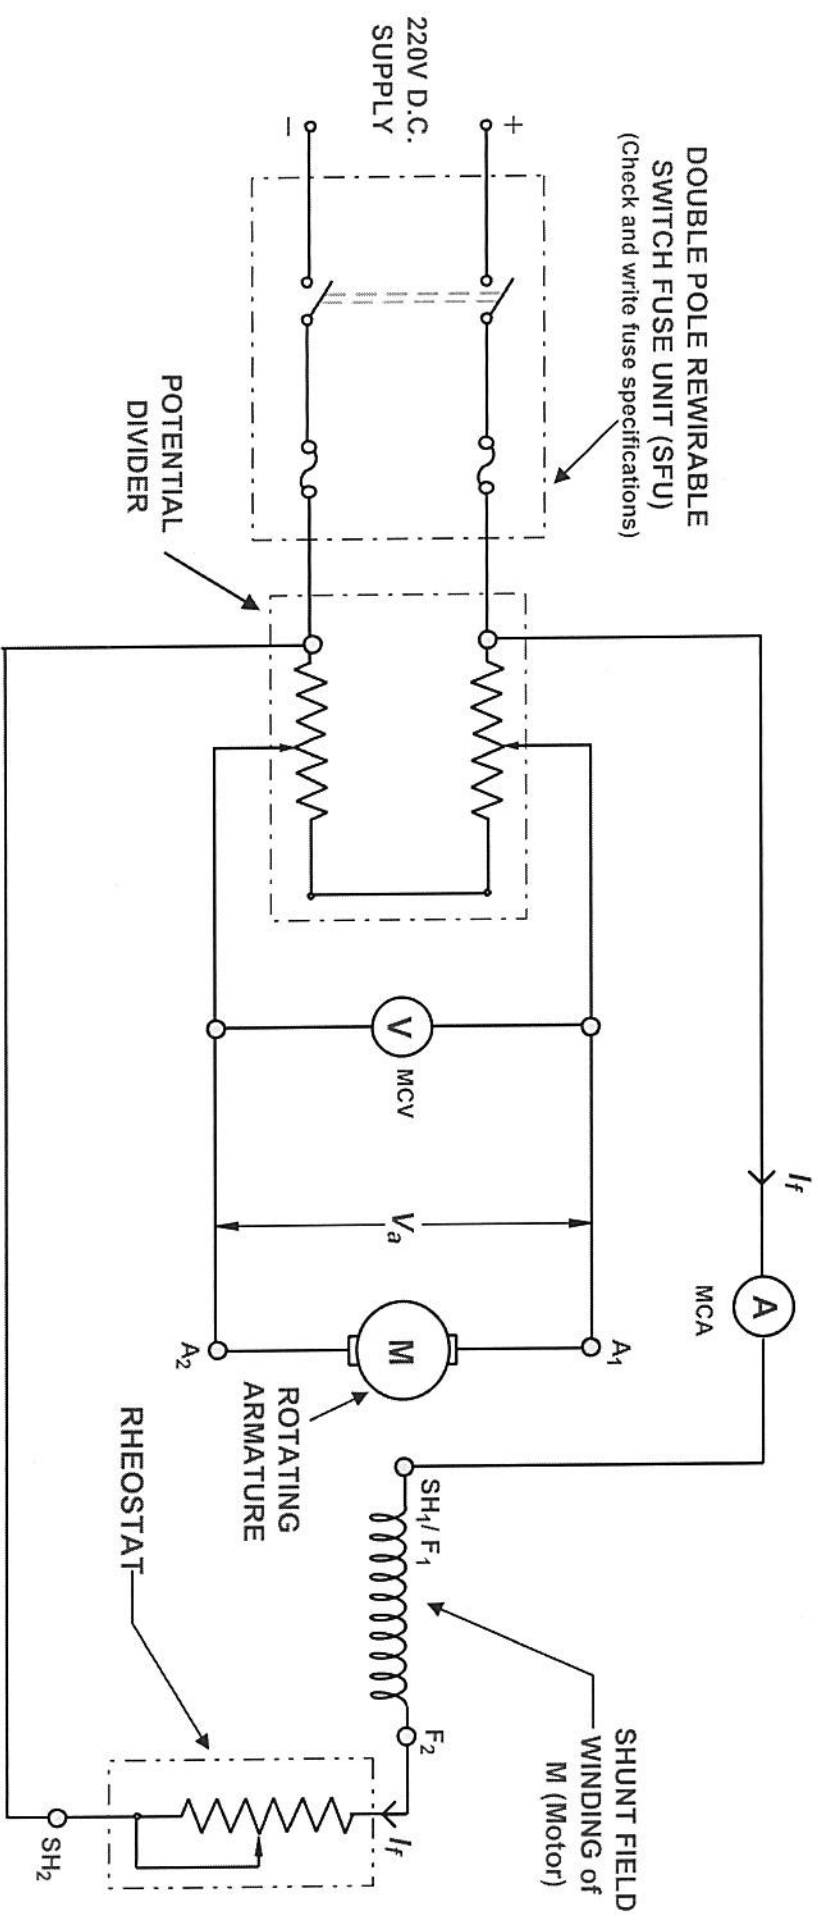

Fig : 4.1 Circuit diagram for speed control of D.C. shunt motor
- 1) Make connections as shown in the circuit diagram. (Fig.4.1)